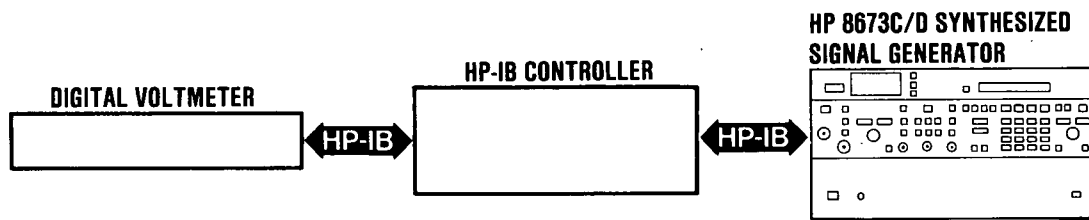

Figure 5-20. SRD Bias Adjustment Test Setup
1. Connect the Signal Generator and voltmeter to the controller via the HP Interface Bus as shown in Figure 5-20.